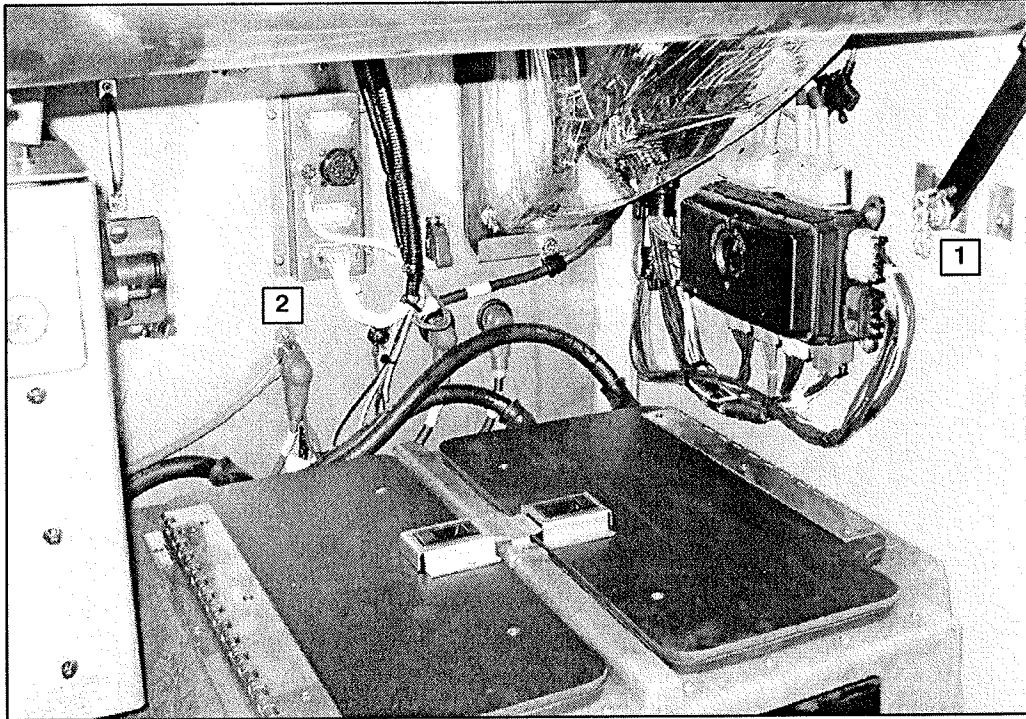

Figure 1.
1. Open the battery compartment door. Install the positive lock pin in the hole of the hinge to secure the door in the open position (refer to Figure 1).
4. Locate the 24V HOT power stud block on the back compartment wall (refer to Figure 1).